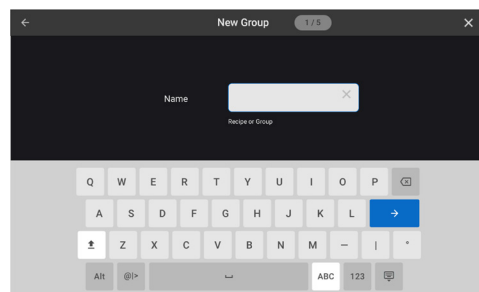

Figure 23: Name New Group
3. Input the group name and touch the blue arrow button to continue (Figure 23, below).